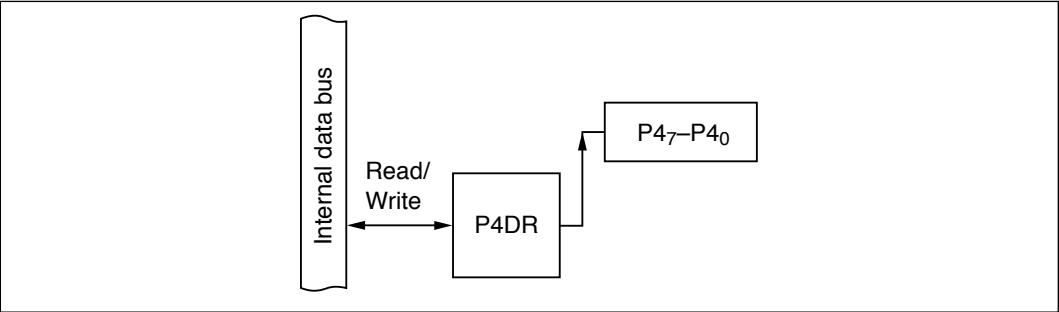

Figure 9-23 Output Port (Modes 1 to 7)
(2) Output Port (Modes 1 to 7): Figure 9-23 shows a block diagram illustrating the general-purpose output function. Table 9-16 indicates register read/write data. The value written in the port 4 data register (P4DR) is output at the pin. When read, P4DR returns the value written in P4DR.